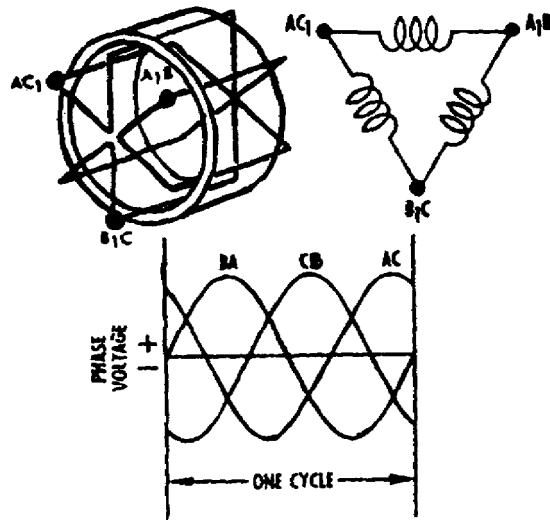

Figure 25. Delta connection.
c. When the ends of the loops of wire marked A, B, and C are connected to the ends marked B, C, and A respectively (fig 25), a basic three-phase "delta"-connected stator is formed. The three AC voltages available from the delta-connected stator are identical to the three voltages previously discussed, and may now be denoted as the voltages from B to A, C to B, and A to C, or more simply BA, CB, and AC. An inspection of figure 25 will show the logic of this notation. The voltage formerly called AA may now be called BA.